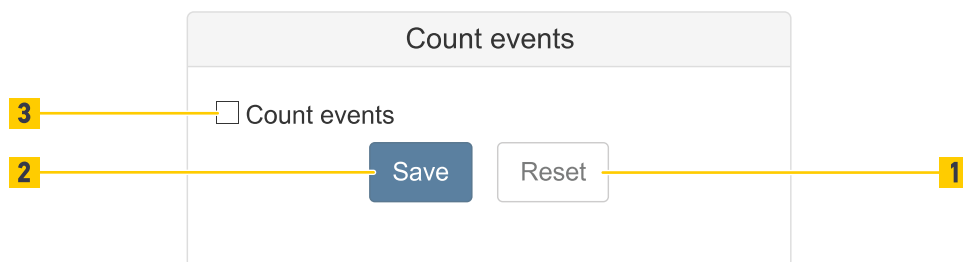

Fig. 101: Count events
- To activate logging count events tick the Count events checkbox (Fig. 101 /3).
- To go back to the last saved settings click the Reset button (Fig. 101 /1).
- To save all the settings in the device click the Save button (Fig. 101 /2).